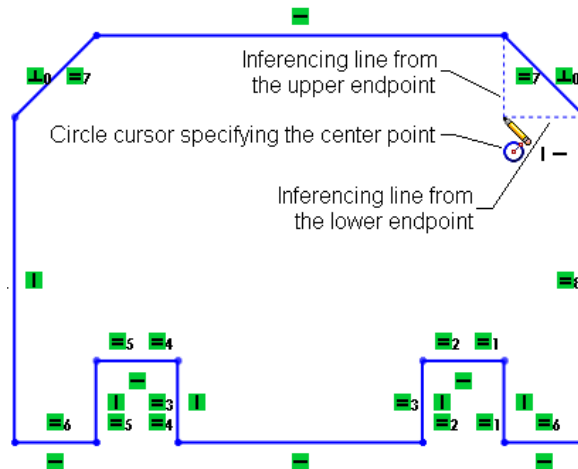

Figure 2-70 Drawing a circle with the help of inferencing lines
- d. Draw circles and sketch of inner cavity, refer to Figures 2-70 through 2-74
- Move the circle cursor close to the lower endpoint of the right inclined line and then move it toward the left. Remember that you should not press the left mouse button at this moment. An inferencing line is displayed originating from the lower endpoint of the right inclined line. On moving the cursor toward the left, you will notice that another inferencing line originates at the point where the cursor is vertically in line with the upper endpoint of the right inclined line. This inferencing line will intersect the inferencing line generated from the lower endpoint of the inclined line, refer to Figure 2-70.